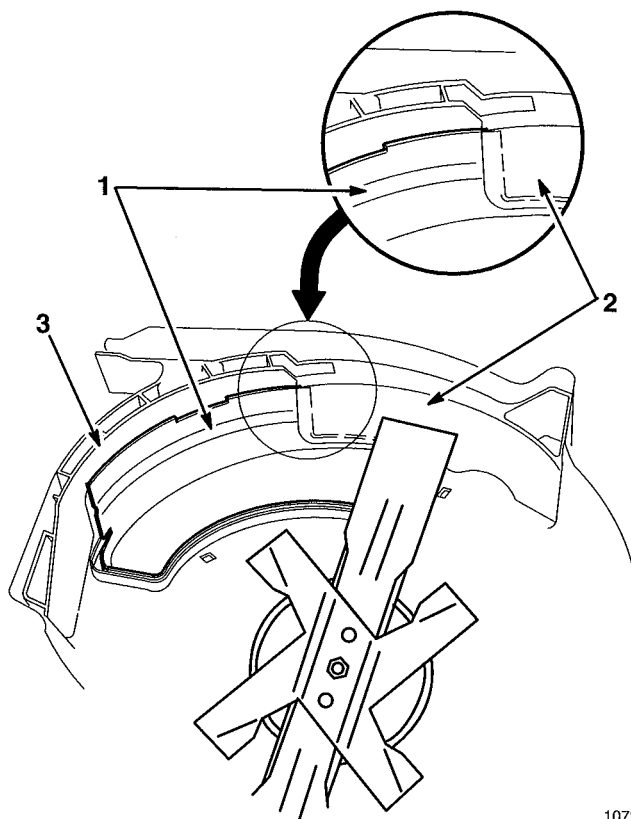

Figure 35
9. Check clearance between blade tips and chute baffle making sure there is no contact (Fig. 35).
Note: The chute baffle must go behind the front deck baffle and between blade and toe guard to prevent contact with blade (Fig. 35).